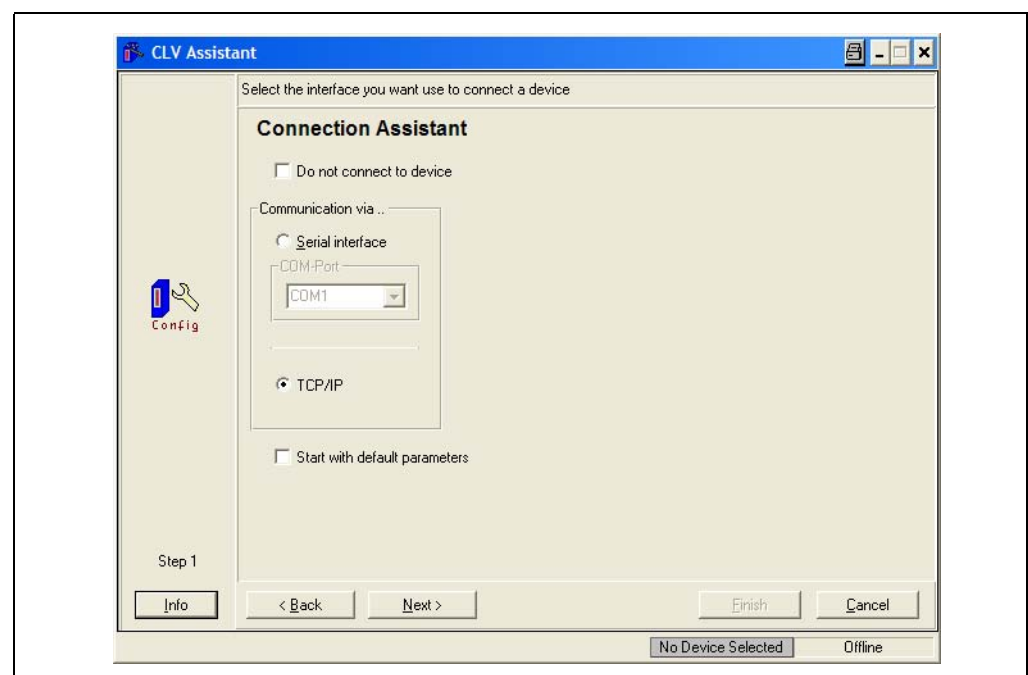

Fig. 6-2: CLV Assistant: Connection Assistant dialog box
1. In the dialog box of the Connection Assistant (Fig. 6-2, Page 50) click the control box START WITH DEFAULT PARAMETERS if necessary.